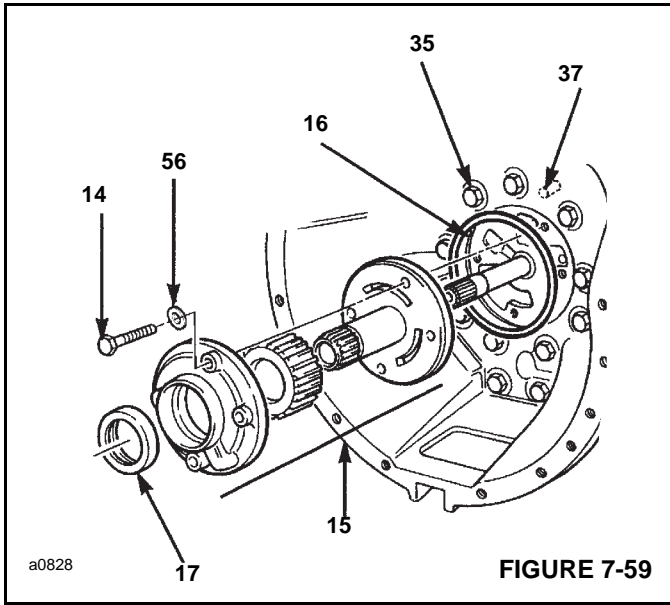

FIGURE 7-59
Make sure all bearings have been lubricated with Lithium Base, E.P. No. 2 bearing grease. Apply Loctite 574 to mating face of flywheel housing. Install the flywheel housing, locating it on dowels (37, Figure 7-59). Apply Loctite 243 to bolts (35) and tighten to a torque of 56 Nm (42 lb-ft).
29. If disassembled, assemble pump (15, Figure 7-59). Install the pump taking care to align mounting holes. Apply Loctite 243 to bolts (14) and using new seal washers (56), tighten the bolts to a maximum torque of 25 Nm (18 lb-ft). Use a new pump housing seal (17). Install new O-ring (16). Ensure a sufficient quantity of clean new oil (Mobil ATF 210) is added to pump for initial start-up lubrication of the gears.